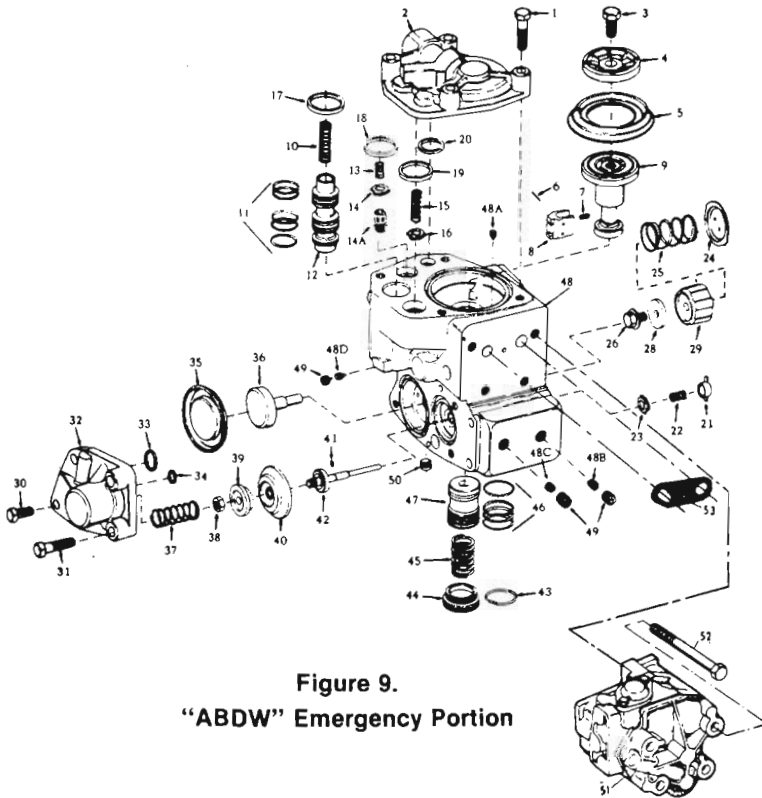

Figure 9.
6.2 The emergency portion contains 8 choke plugs which govern the flow of air through the ports in which they are located (See Figures 9 and 10).
6.3 The emergency portion has a total of twelve springs which are identified in Figures 9 and 10 and Table 3 by reference numbers as follows:
See Figure 9
Reference - Figure 9